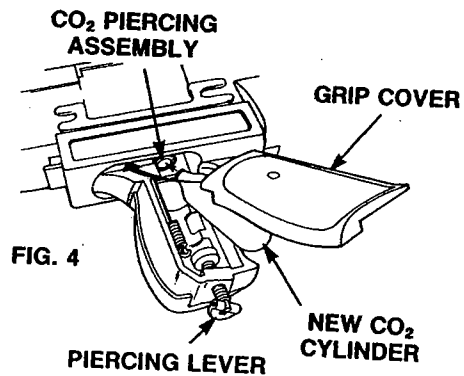

FIG. 4
- Insert the new CO₂ cylinder into the pistol with the small neck of the cylinder pointing toward the piercing assembly. (Fig. 4)
- Slide the grip cover under the frame and snap it into place (Fig. 4).